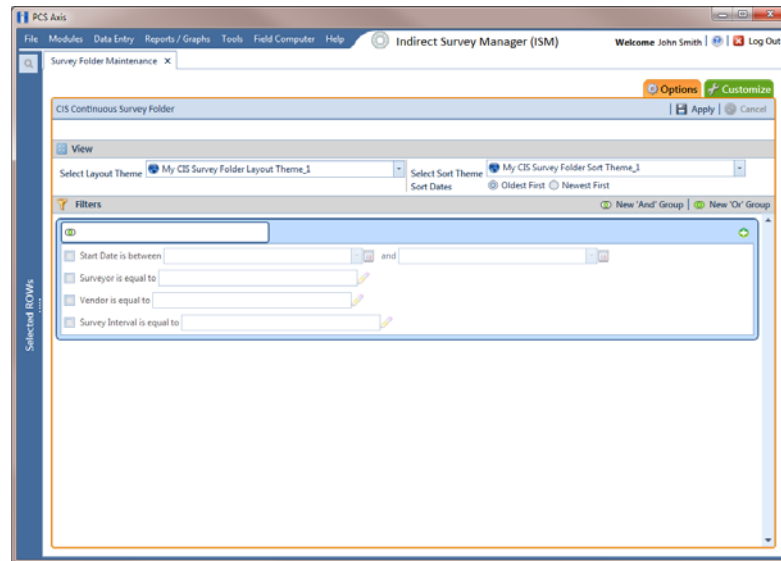

Figure 6-17. Options
- a Click the **Options** tab  to open the options page (Figure 6-17, page 175).